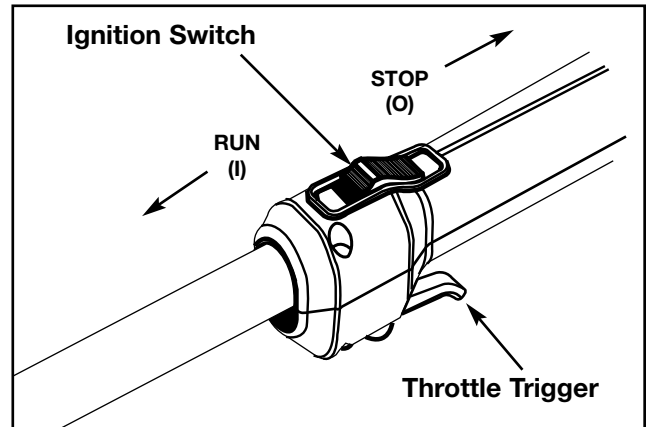
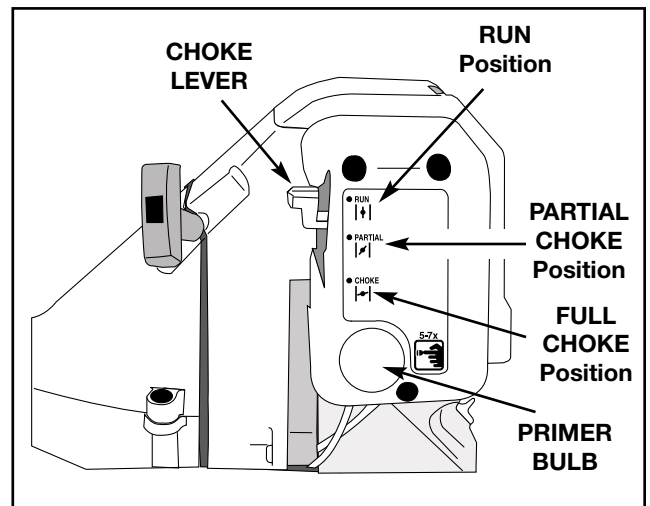
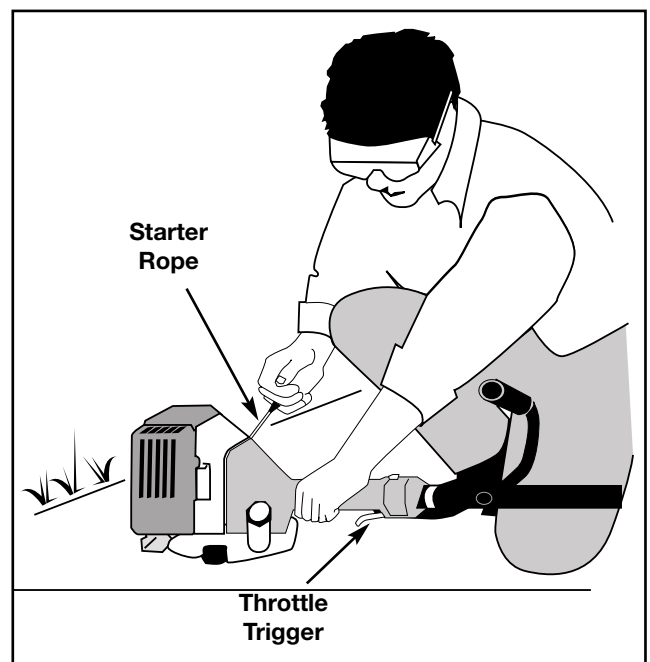

Fig. 20
Fig. 21
Fig. 22
1. **CHECK THE OIL LEVEL IN THE CRANKCASE, AND PUT THE IGNITION SWITCH IN THE "RUN" (I) POSITION.** See Figure 20 for the location of the ignition switch.
2. **FULLY PRESS AND RELEASE THE PRIMER BULB 5 TO 7 TIMES.** See Fig. 21 for the primer bulb location.
3. **PLACE THE CHOKE LEVER IN THE FULL "CHOKE" POSITION.** See Fig. 21.
**NOTE:** For a warm engine, go directly to Step 5 (place the choke lever directly in the "PARTIAL" choke position). See Fig. 21.
4. **WITH THE UNIT ON THE GROUND, PULL THE STARTER ROPE QUICKLY UNTIL THE ENGINE SOUNDS LIKE IT WANTS TO RUN (no more than 5 pulls).** See Fig. 22.
5. **PLACE THE CHOKE LEVER IN THE "PARTIAL" POSITION (Fig. 21). PULL THE STARTER ROPE QUICKLY UNTIL THE ENGINE STARTS (no more than 5 pulls).** See Fig. 22.
7. **RUN THE ENGINE FOR 30 SECONDS, WITH THE THROTTLE LEVER FULLY SQUEEZED (Fig. 20), TO WARM UP. PLACE THE CHOKE LEVER IN THE "RUN" POSITION (Fig. 21).**
8. **TO STOP THE ENGINE, PUT THE IGNITION SWITCH IN THE "STOP" (O) POSITION.** See Fig. 20.